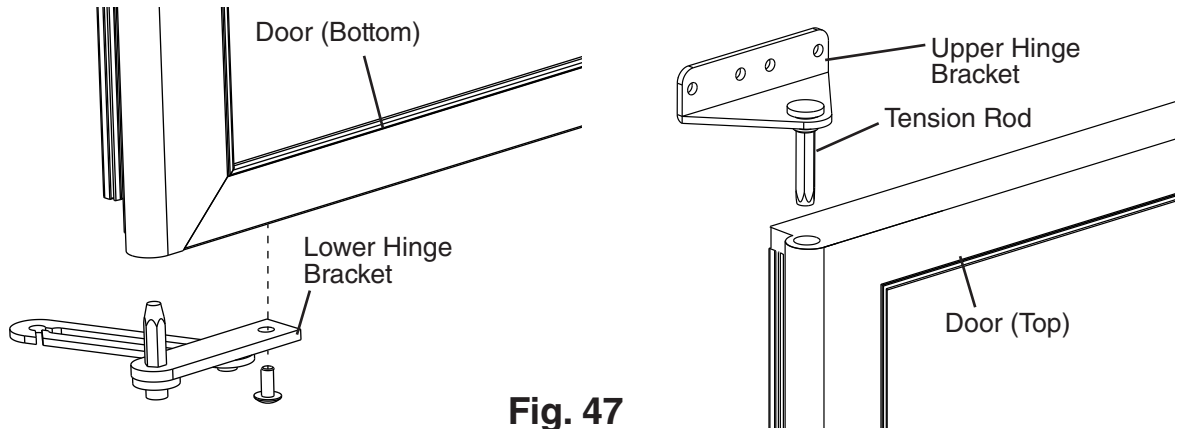

Fig. 47
15) Rotate the door 180 degrees and place the lower hinge in its new position and secure. See Fig. 47.